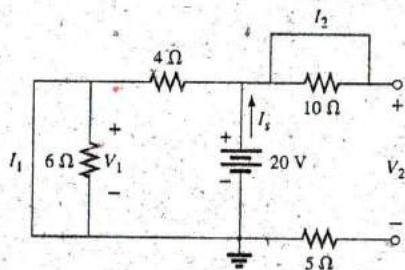

FIG. 6.111
- *42. For the network in Fig. 6.111, determine: